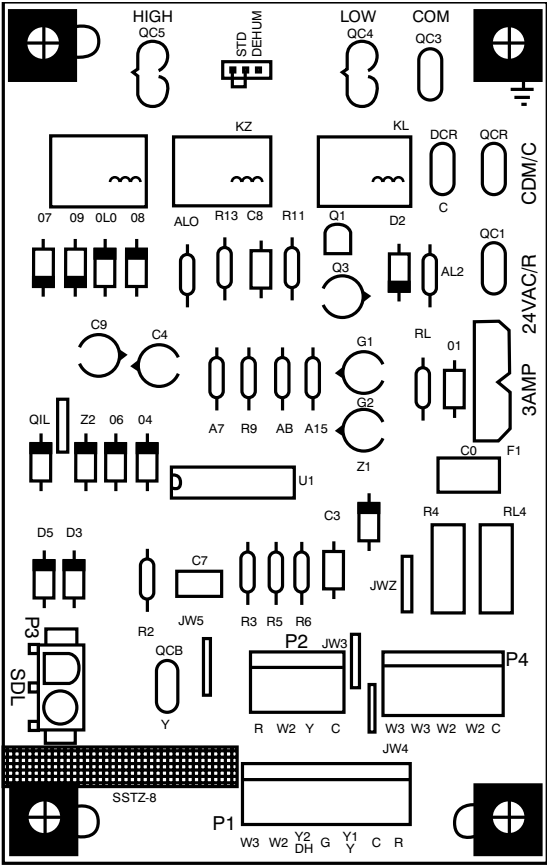

Fig. 19 – Interface Fan Board (IFB)
The cooling speed is marked “LOW” on the interface fan board (IFB) (See Fig. 19). The factory-shipped settings are noted in Table 4. There are 4 additional speed tap wires available for use in either electric heating or cooling (For color coding on the indoor fan motor leads, see Table 3). The additional 4 speed tap wires are shipped loose with vinyl caps and are located in the control box, near the interface fan board (IFB) (See Fig. 19).
2. Remove the current speed tap wire from the “LOW” terminal on the interface fan board (IFB) (See Fig. 19) and place vinyl cap over the connector on the wire.
1. Using Fig. 19, move the two pin DEHUM jumper from the “STD” position to the “DEHUM” position.
2. Remove fan speed tap wire from the “LOW” terminal on the interface fan board (IFB) (See Fig. 19).
1. Move the two pin DEHUM jumper located on control board (see Fig. 19) from the “STD” position to the “DEHUM” position.
When the DEHUM feature is not used, the continuous fan speed will be the same as cooling fan speed. When the DEHUM feature is used, the continuous fan will operate on IFB “LOW” speed when the DH control lead is not energized, or IFB “HIGH” speed when the DH lead is energized (see Fig. 19).